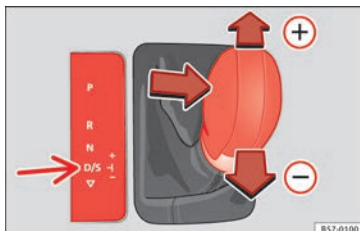

Fig. 199 Centre console: changing gear with triptonic
- Move the selector lever forwards  to select a higher gear » **Fig. 199**.